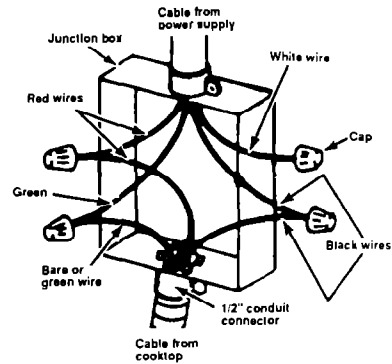

Figure 2
1. Connect the two black wires. Then connect the two red wires. Cap the unused white wire. (See Figure 2.)